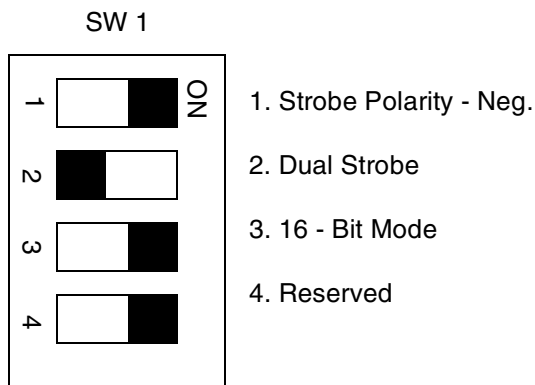

**Figure 10.** Slave-Side MSC8103ADS Switch 11 Settings
- *Software Options.* Switch 11 is defined in **Figure 10**.